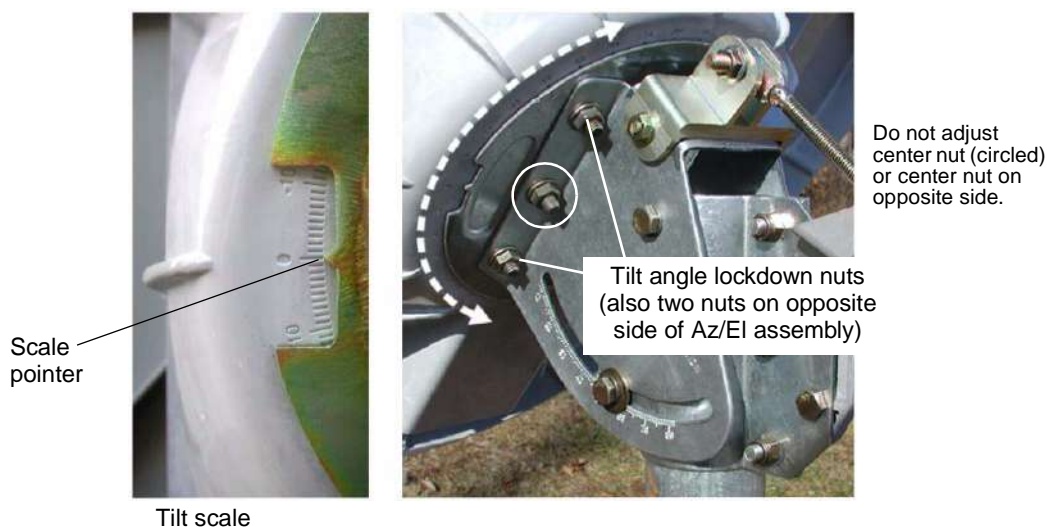

Figure 51: Tilt adjustment on the antenna
1. Loosen the four tilt lockdown nuts just enough so that you can rotate the antenna reflector. See Figure 51.
Do not adjust the center nut on each side, as noted in Figure 51.
2. Rotate the antenna to the desired tilt value as indicated by the tilt scale (shown in Figure 51).